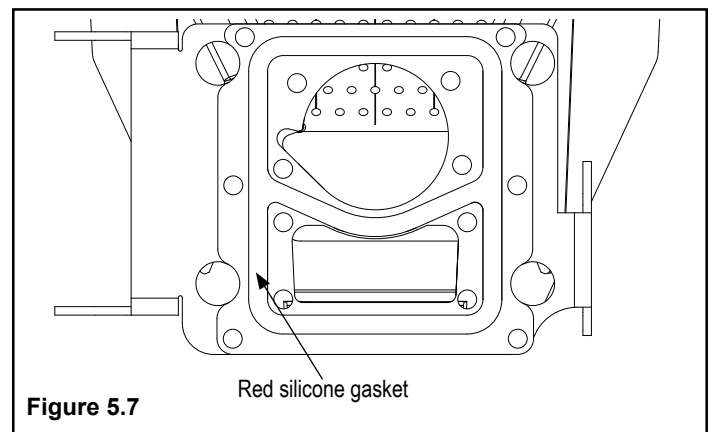

Figure 5.7
1. Inspect the red silicone gasket on the back of the burnpot to make sure there is no damage or carbon around the edges that may cause a poor seal. Figure 5.7.